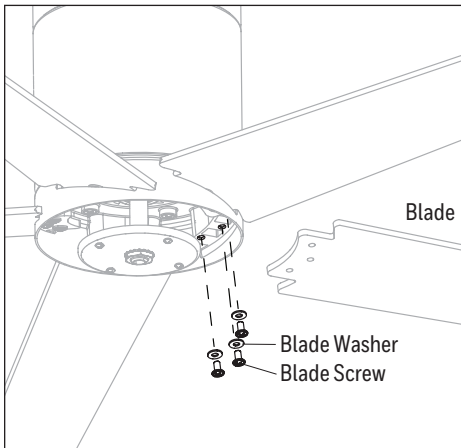

Figure 4.4
4. Insert blade through slot in the side of the motor assembly. Align the holes of one blade with three blade screw holes in underside of the motor assembly. Secure with the three blade screws and blade washers. Repeat this step for the remaining blades (Figure 4.4).